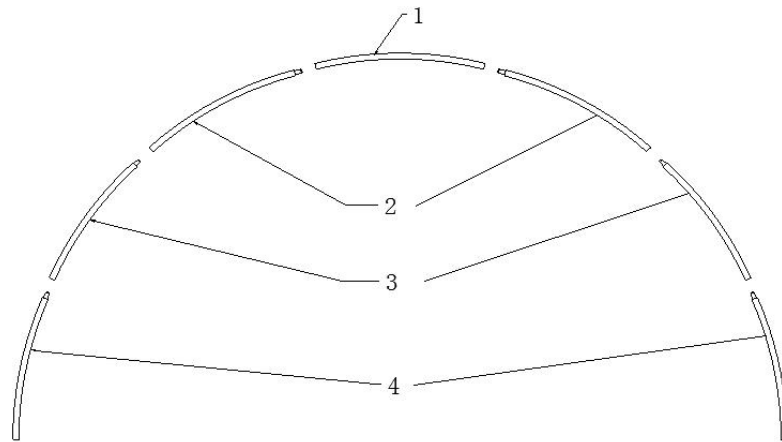
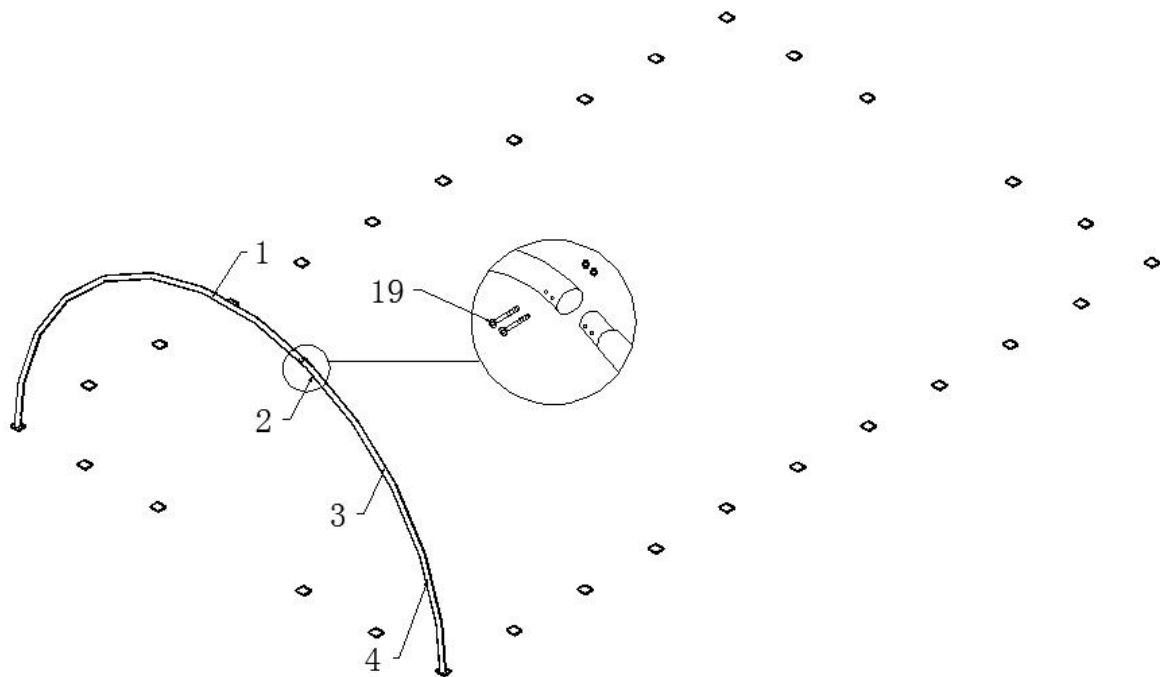

Figure 3
Figure 4
1. (Part No. 1*1+No.2*2+No.3*2+No.4*2) As **Figure 3** and **Figure 4** shown to find one piece of Roof bent tube (No.1), two pieces of Upper bent tube for front and rear door(No. 2A), two pieces of Sidewall tube(No.3), two pieces of Lower bent tube (No. 4) . Connect them by using Bolt M10x100 (No. 19), which makes the first group of front door arch frame.Put the first group of arch frame into the base plates like the Figure 4 shows.